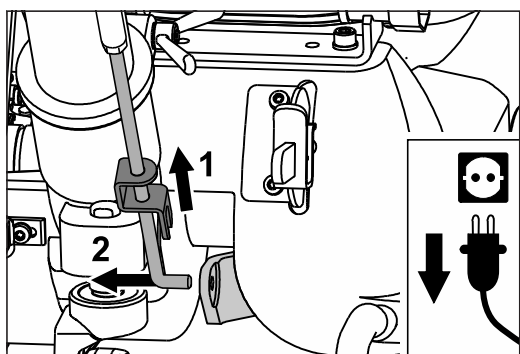

Fig. 35 Dismount the lower rod from the lifting fixture.
- 11 Dismount the lower rod from the lifting fixture (fig. 35).